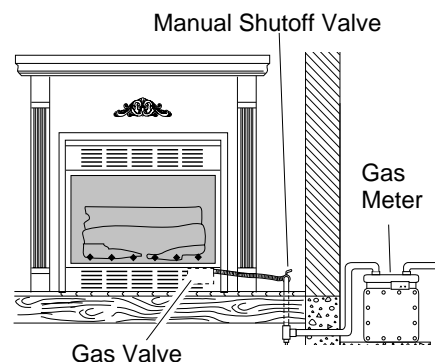

Figure 34 - Checking Gas Joints
3. Check all joints from gas meter to manual shutoff valve (see Figure 34). Apply mixture of liquid soap and water to gas joints. Bubbles forming show a leak.
4. Check all joints from manual shutoff valve to gas valve (see Figure 34, page 15). Apply mixture of liquid soap and water to gas joints. Bubbles forming show a leak.